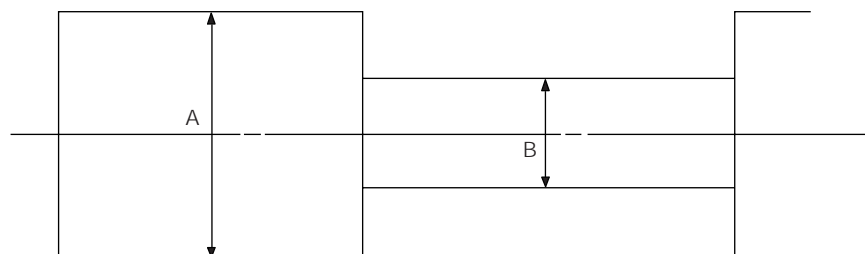

Fig. 4-69 Envelope Output and Output Level
1. Make recordings on T-120 (E-120) and T-160 (E-180) tape. Make sure the playback output envelope meets the specification as shown in Fig. 4-69.
2. Play back a self recorded tape (recording made on the unit using with T-120, E-120). The video envelope should meet the specification as shown in Fig. 4-69. In SP mode, (A) should equal (B). If the head gap is wide, upper cylinder should be checked.